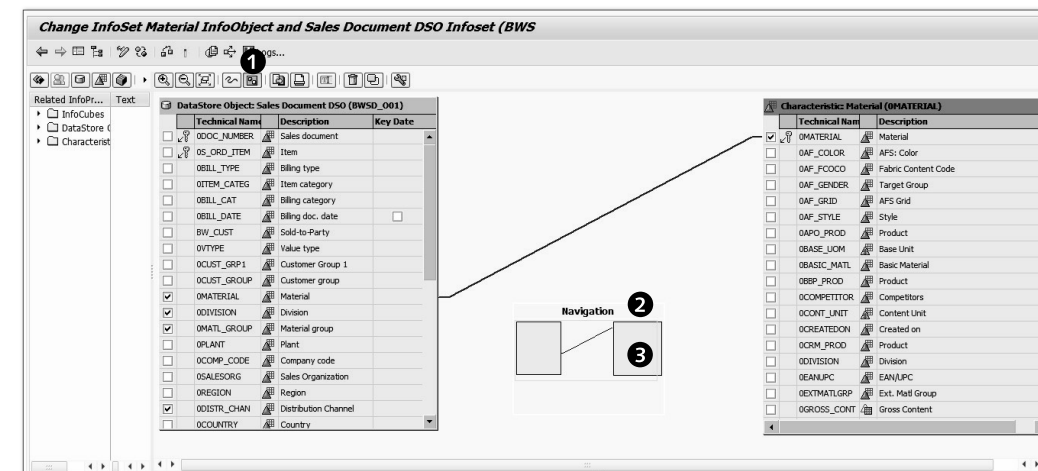

Figure 6.33 Using the Navigator Function
When you're in the InfoSet change screen, sometimes all of the source objects won't fit on one screen. For example, as shown in Figure 6.33, the rightmost column (e.g., KEY DATE) isn't visible. There are three ways to adjust this view. The first method is to use the standard horizontal scroll bar available on any SAP BW screen, and scroll to the right side. The second method is to use the ZOOM OUT icon , which reduces the size of the font to accommodate more visible area on the same screen. There is also a ZOOM IN icon  that increases the size of the font to accommodate less visible areas on the same screen with more clarity.
The third method is to use the NAVIGATOR function. Click on the SHOW/HIDE NAVIGATOR icon , as shown in ❶ of Figure 6.33. The result is that SAP BW adds a small box titled NAVIGATION ❷.